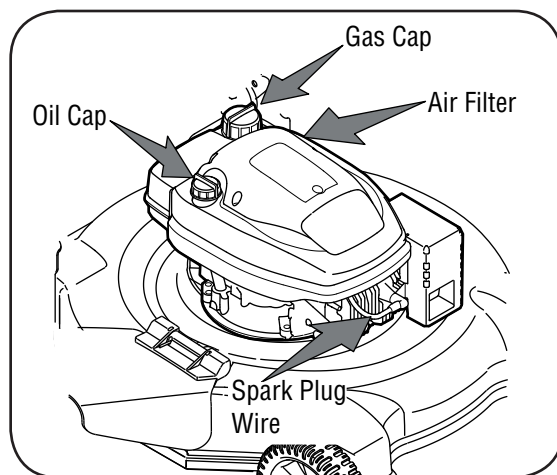

Figure 4
3. Clean the spark plug and reset the gap to .030" at least once a season. Refer to the engine manual for correct spark plug type. Refer to Figure 4.
1. Disconnect spark plug wire. Drain gasoline from lawn mower, or place a piece of plastic under the gas cap. See Figure 4.